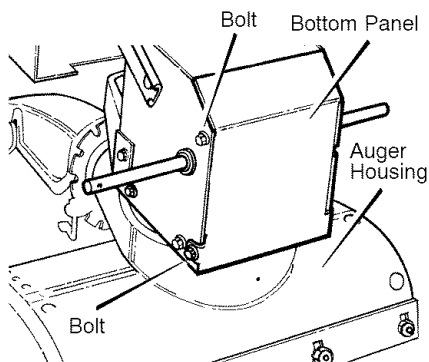

Figure 35
3. Loosen the **bolts** on each side of the **bottom panel** (see Figure 35).